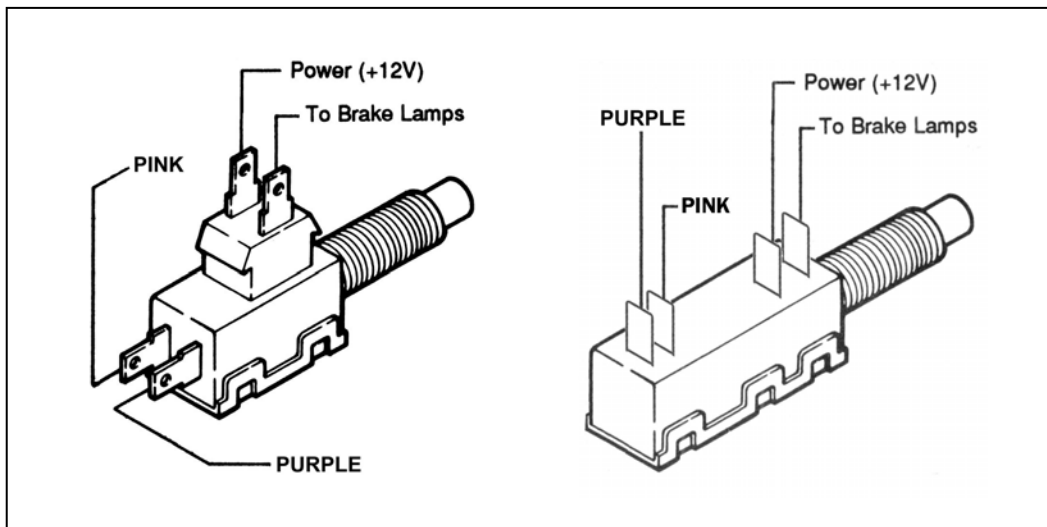

FIGURE 6.2 Brake Switch Connections
- F. If you are using the recommended brake switch then you will wire it according to **Figure 6.2**. The pink wire to the back of the switch in the illustration is the wire that has power on it whether or not the brake is being applied.